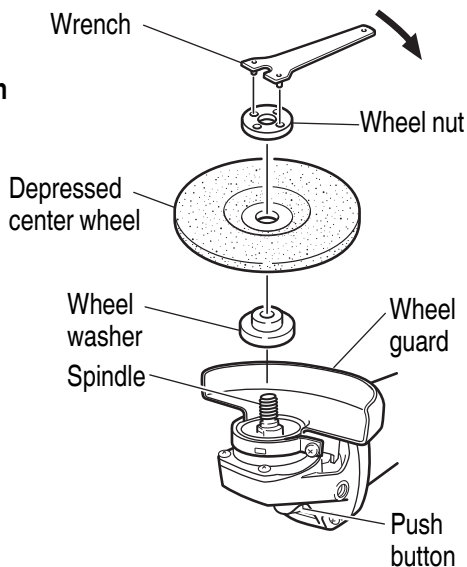

Fig. 5
ASSEMBLING AND DISASSEMBLING THE DEPRESSED CENTER WHEEL (Fig. 5)
1. Assembling (Fig. 5)
Tighten the wheel nut by using the supplied wrench as shown in Fig. 5.